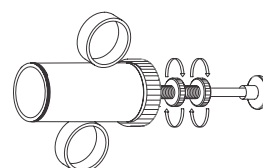

Fig. 4
Turn the Volume adjustable nut (18)& the locking nut (17) on the metal holder in anticlockwise direction and ensure the SS piston (15) is at the lowest level. This will ensure easy assembly of the glass syringe inside the metal holder. Refer to Fig 4.